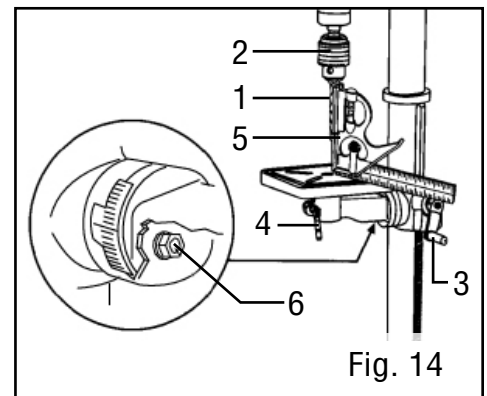

Fig. 14
SQUARING TABLE TO THE DRILL BIT (FIG. 14)
1. Insert a 3" long drill bit (Fig. 14 - 1) into the chuck (Fig. 14 - 2) and tighten the jaws with the chuck key.
2. Raise the table with the crank handle (Fig. 14 - 3). Lock the table (Fig. 14 - 4) approximately 1" below the drill bit.
4. If an adjustment is needed, loosen the bevel lock bolt (Fig. 14 - 6) with a wrench.